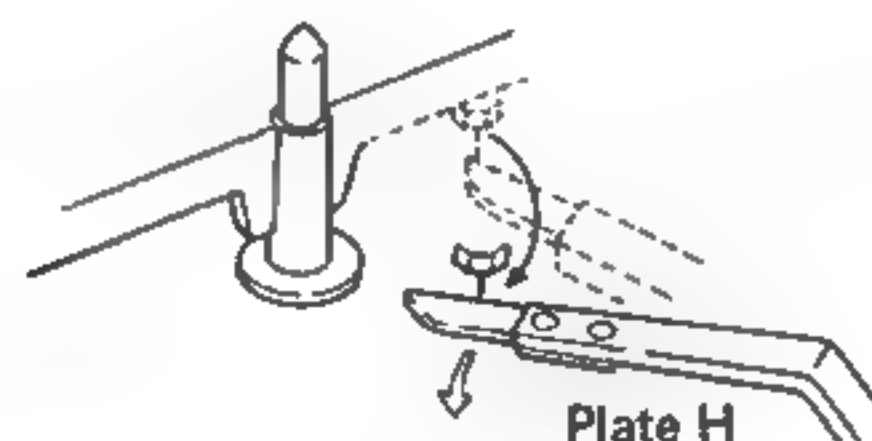

Fig. 10
4. When the stylus movement exceeds 3mm per record rotation, the platter pin engages plate H (Fig. 10).